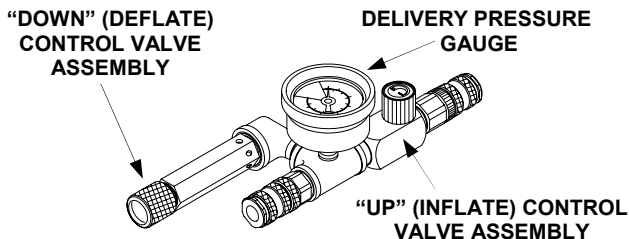

Figure 2-5. Single Safety Relief and Control Valve Controls and Gauges
The only controls on a single or dual safety relief control valve (figures 2-5 and 2-6 respectively) are the “UP” (inflate) and “DOWN”(deflate) control valve assemblies. The control valve assemblies are either independently opened (“UP”) to permit regulated air to inflate the lift bag(s) or closed (“DOWN”) to relieve system air to deflate the lift bag(s) and prevent regulated air from pressurizing the system. Each of the “UP” and “DOWN” control valve assemblies on the dual safety relief and control valve operate independent of the other thereby permitting the application and release of air pressure to and from the lift bag(s)
- d. **Single and Dual Safety Relief and Control Valves (Figures 2-5 and 2-6 Respectively).** A delivery pressure gauge is provided for each of the "UP"/"DOWN" control valve assembly(s), respective to the controller (single or dual safety relief and control valve). The gauge is marked in 20 psi increments from 0 psi to 200 psi and is scribed each 2 psi. The pressure gauge is also marked each 200 kPa from 0 to 1400 kPa and is scribed each 20 kPa.